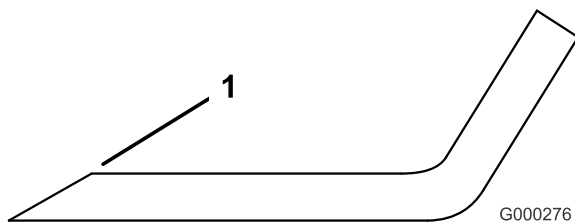

Figure 71
1. Sharpen the cutting edge at both ends of the blade (Figure 71). Maintain the original angle. The blade retains its balance if the same amount of material is removed from both cutting edges.